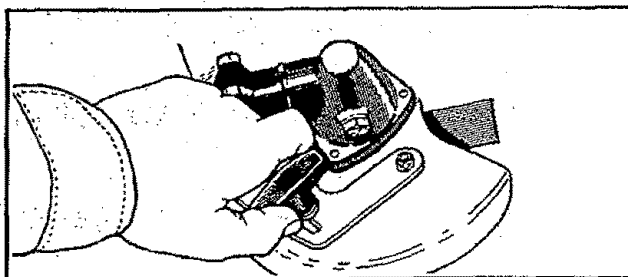

Figure 13
1. Loosen the large plastic knob on the back of the blade guard. Figure 13.